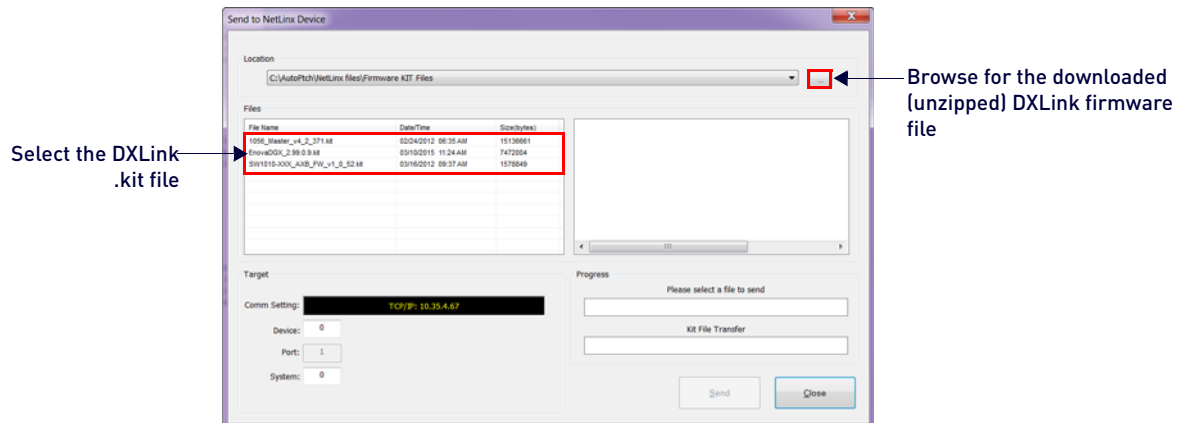

FIG. 153 NetLinX Studio - Send to NetLink Device dialog
- Select Tools/Firmware Transfers/Send to NetLink Device to open the Send to NetLink Device dialog (FIG. 153):